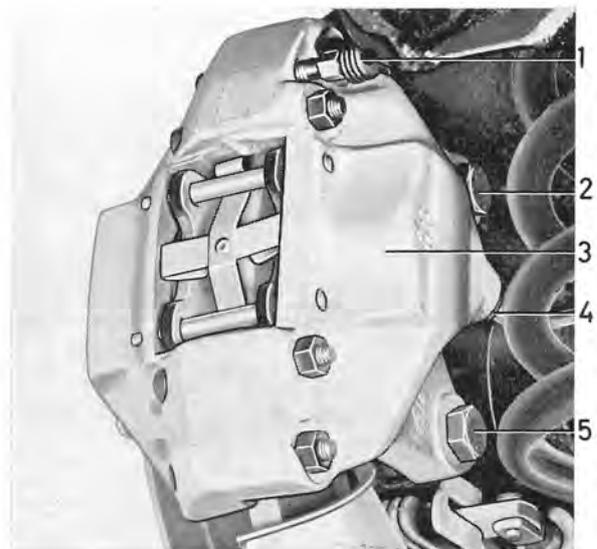
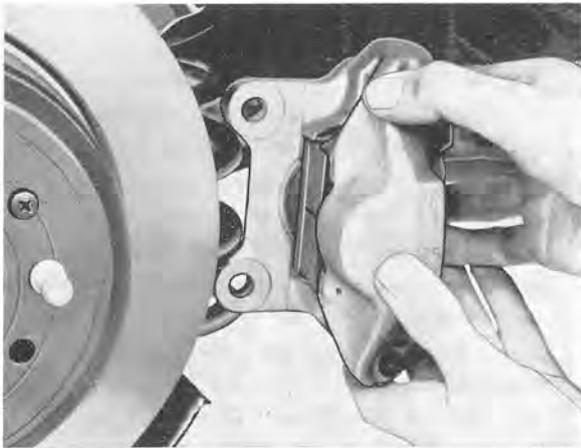

Fig. 5-25. Rear wheel brake unit installed
Fig. 5-26. Removing rear wheel brake caliper
3. Disconnect the brake line (4, Fig. 5-25) at the connection to the caliper and fit a protective cover on the brake line. Remove the attaching bolts (2 and 5, Fig. 5-25). Remove the brake caliper, see Fig. 5-26.
2. Connect the brake line, see Fig. 5-25. Remove the plug for the vent-hole in the brake fluid container cover.